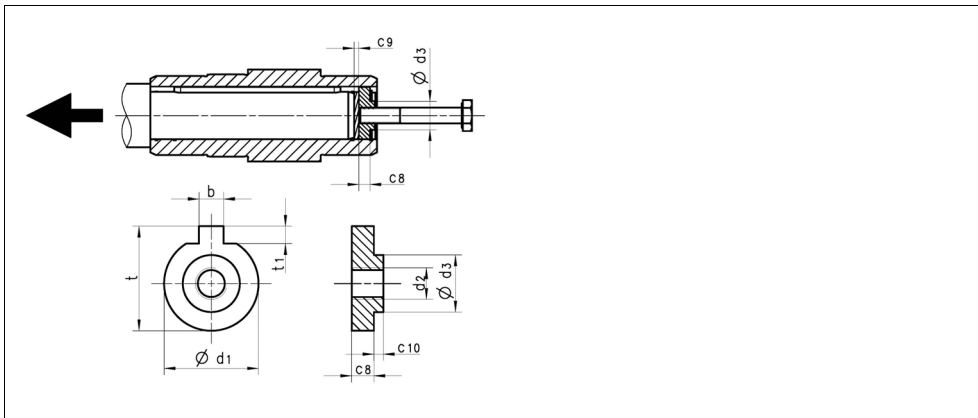

Fig. 12 Disassembly of gearboxes with hollow shaft, with auxiliary tool
2. Remove/extract the gearbox from the motor shaft using an appropriate auxiliary tool (Fig. 12).